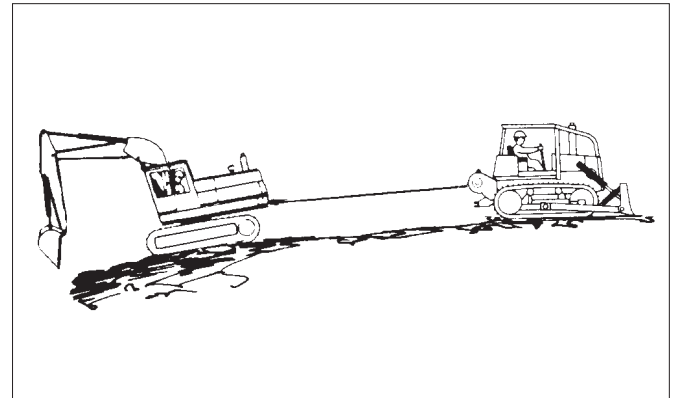

Figure 19 Moving a Disabled Vehicle (Step B)
B. A dozer or skidder equipped with a winch can be used to pull another vehicle from mud or other areas where it cannot move using only the drive wheels or tracks. See Figure 19. Use the following procedure: